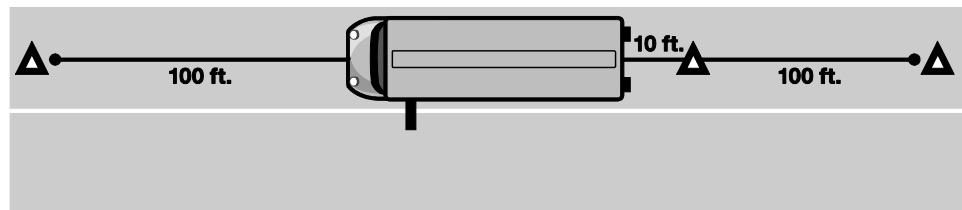

Figure 12-5. Warning Device Placement—Two-Lane Traffic or Undivided Highway.
- If the vehicle is not moved, protect the scene from traffic and people so evidence is not destroyed. See Figures 12-5, 12-6, and 12-7 for warning device placement.